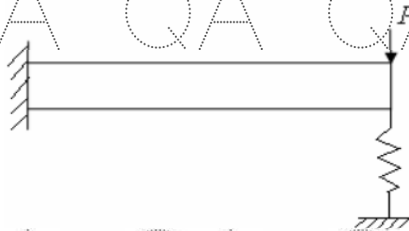

Figure 1
d) Write down the essential and natural boundary conditions of the problem (figure 1). [3]